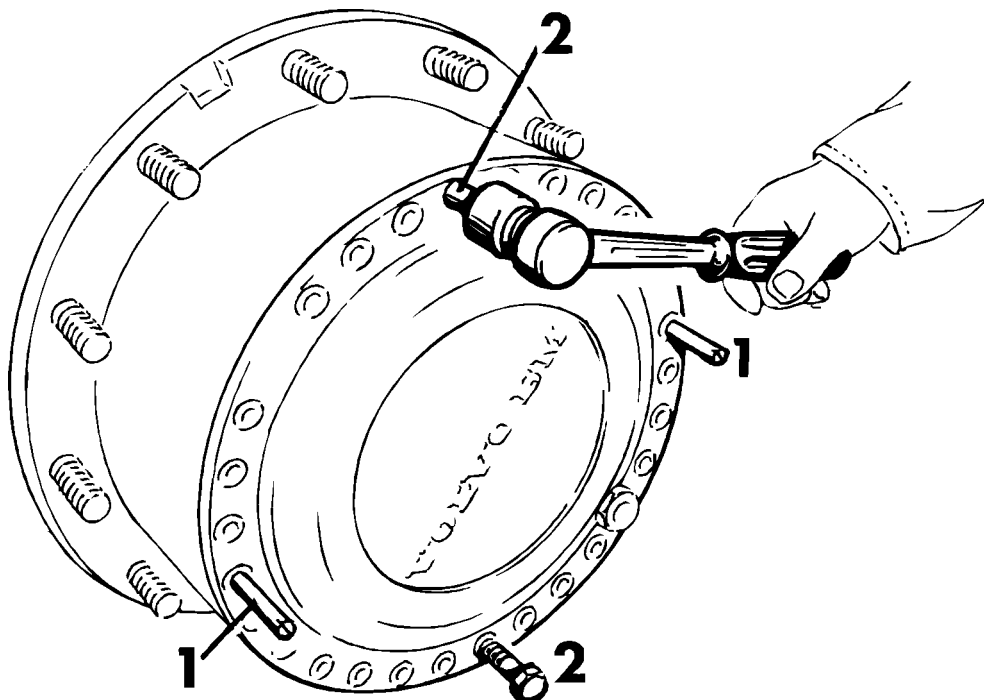

Figure 1
6. Loosen the planetary retaine, see Figure 1.